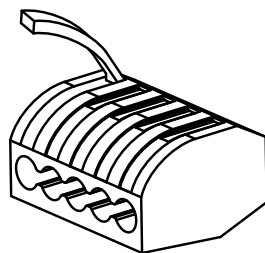
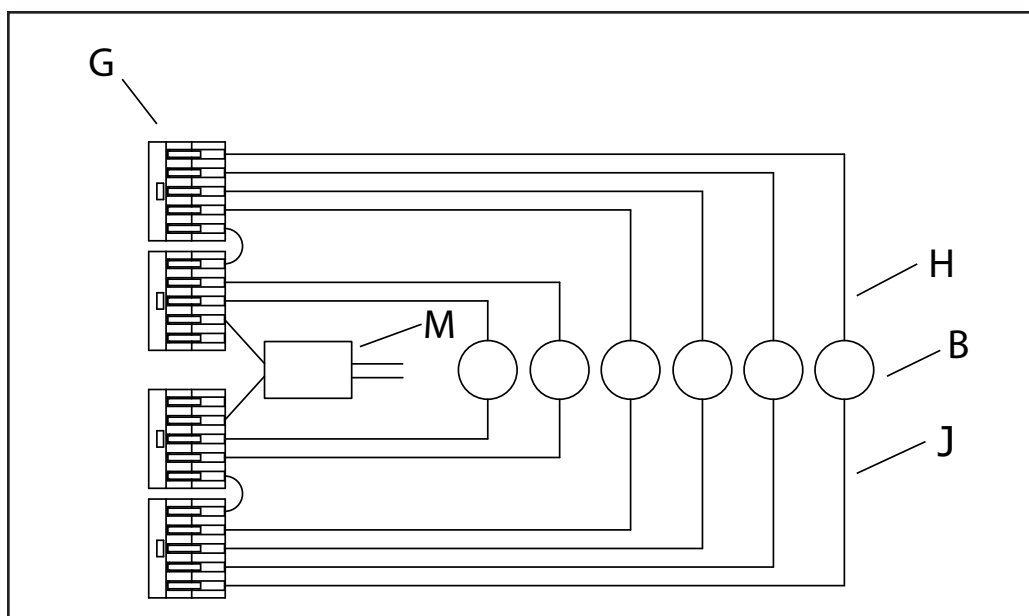

Fig. 1
Fig. 2
1. Shut off power to the outlet box. (A)
2. Feed the power cords (B) through the bushings (C) on canopy (D).
3. Determine the height at which the fixture is to be hung. Use the screwdriver (E) to loosen the set screw (F). Adjust the cord (B) to the desired length. Tighten the set screws to set.
4. Connect the fixture wires to the lever nuts (G) by pulling up on the lever for an empty slot (Fig. 1), inserting the wire, and pushing the lever back down to lock. The red inner conductor (H) and black outer conductor (J) on each cord (B) must be connected to separate lever nuts, as shown (Fig. 2).
5. Loosen the screws on the safety cable coupling (K) and undo the loop. Pass the safety cable through a hole on the cross bar (L) and insert the end back through the coupling to form a loop. Tighten the coupling screws to secure the safety cable.
- a. Connect the transformer (M)'s live wire (black) to the outlet box (A) live wire.
7. Reserve extra cords (B) and lever nuts (G) in canopy (D).
8. Attach cross bar (L) to the outlet box (A), secure with outlet box screws (N).
9. Attach canopy (D) to nipple (P), secure with canopy nut (Q).
10. Restore power to the outlet box (A).